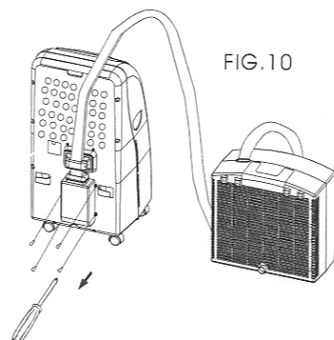

FIG. 10
1. Open the tube connection box situated at the back of the indoor unit. (fig. 10)